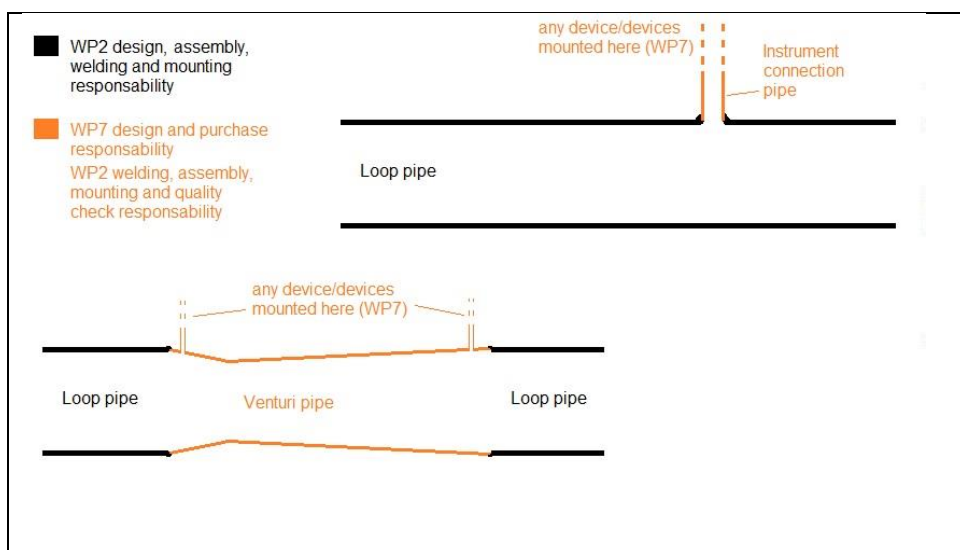

Figure 2: WP2 & WP7 mechanical part responsibilities
*WP7 responsibilities:* Design, quality documentation, purchase and delivery of parts with correct material and quality, and quality documentation to fulfil RCC-MrX requirements at design temperature 300°C and design pressure 1.30 MPa(a), marked orange in Figure 2.
*WP2 responsibilities:* Assembly, installation, welding test, welding qualification, pressure test, and stress calculations of all parts, as shown in Figure 2. Black parts are the main loop pipes.
Requirement	<p>Flow: Two welded joints in to, and out from, a Venturi pipe on location A at a distance according to figure 3, labels a1=0.50m and a2=0.80m. Design temperature 300°C, design pressure 1.30 MPa(a).</p> <p>Mass of the Venturi pipe: 1.3 x mass of the system pipe DN200.</p> <p>Centre of gravity of the Venturi pipe with connected equipment: 1/3 of the length closest to the smallest inner diameter.</p> <p>Temperature: Six separate Swagelok connectors with dimensions according to WP7. The location on pipes is label B and distance (centre-centre) between the individual connections and the pipe bend according to Figure 2, labels b1&amp;b4=0.75m, b2&amp;b5=1.00m and b3&amp;b6=1.25m. Angular position according to “Cross section B” in Figure 3. Design temperature 300°C, design pressure 1.30 MPa(a).</p>